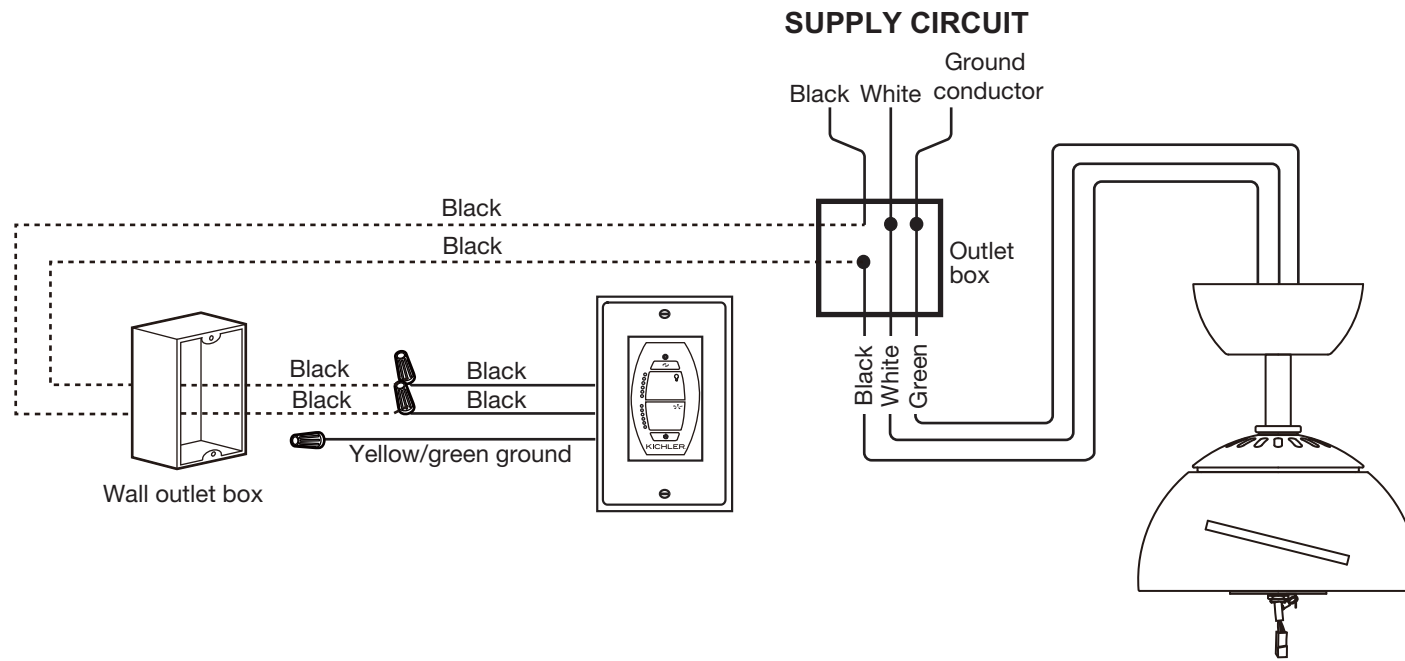

Fig. 12
Make each of the wire connections illustrated in Figure 13. Secure each with the wire nuts provided. (Fig. 12)
Step 1. Black wire from the fan (motor) to the Black wire from the Wall Control's. (Fig. 12)
Step 2. White wire from the fan (motor) to the White (neutral) wire from the Household Supply. (Fig. 12)
Step 3. If your ceiling outlet box has a ground wire (green or bare copper) connect it to the ground wire from the ceiling fan and/or the ceiling mounting bracket. (Fig. 12)
Step 1. Black wire (TO MOTOR L) from the Wall Control to the Black wire from the Wall Outlet Box. (Fig. 12)
Step 2. Black wire (AC IN L) from the Wall Control to the Black wire from the Wall Outlet Box. (Fig. 12)
Step 3. If your wall outlet box has a ground wire (green or bare copper), connect the wall control's yellow/green ground wire to it; otherwise connect the wall control's yellow/green ground wire directly to one of the screws from the wall outlet box. (Fig. 12)